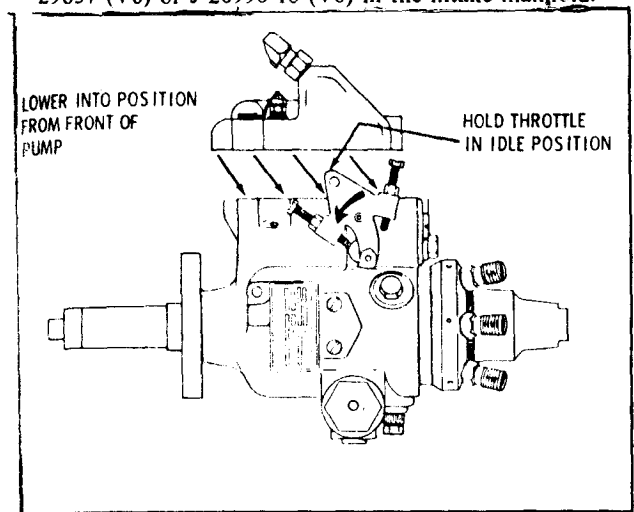

Figure 6C5-27 Installing Injection Pump Cover
3. Disconnect the injection pump fuel solenoid and housing pressure cold advance wires and the fuel return pipe. (Figure 6C5-26)